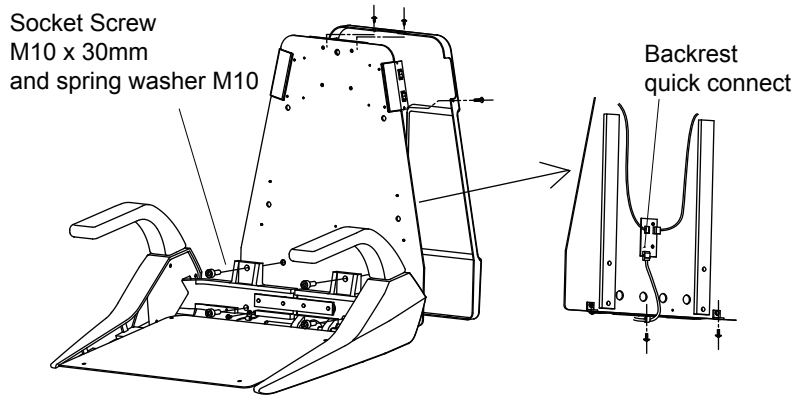

Fig 4-2-3
7) Remove 4 screws securing backrest cover to backrest frame. Attach backrest frame using 4 -M10 x30mm and spring washer M10 screws. Connect backrest quick connect plug to chair. Tie up any excess wire. See Fig 4-2-3